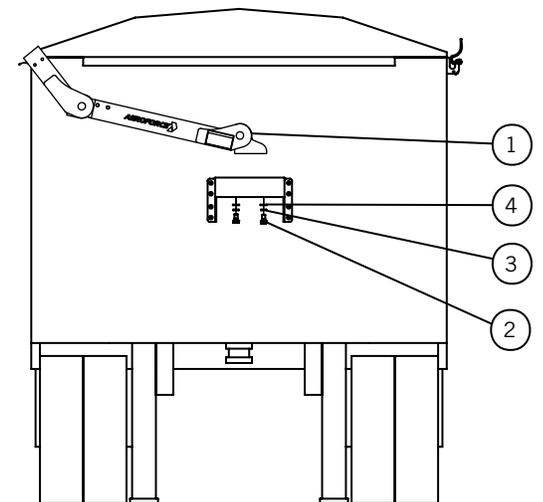

Figure 29-2
- 1) **Figure 29-2.** Using the supplied hardware, mount the front arm assembly to the mounting bracket located on the front of the trailer.